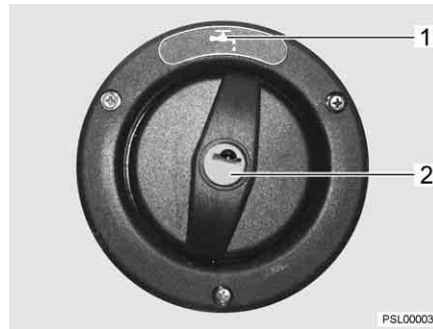

Fig. 189 Drinking water filler neck
The drinking water filler neck is indicated by the symbol "🔑" (Fig. 189,1). The cap is open and closed using the key for the external flap locks.
- Insert key into locking cylinder (Fig. 189,2) and turn a quarter turn in an anticlockwise direction.
- Open drinking water filler neck (Fig. 189) (see chapter 6).